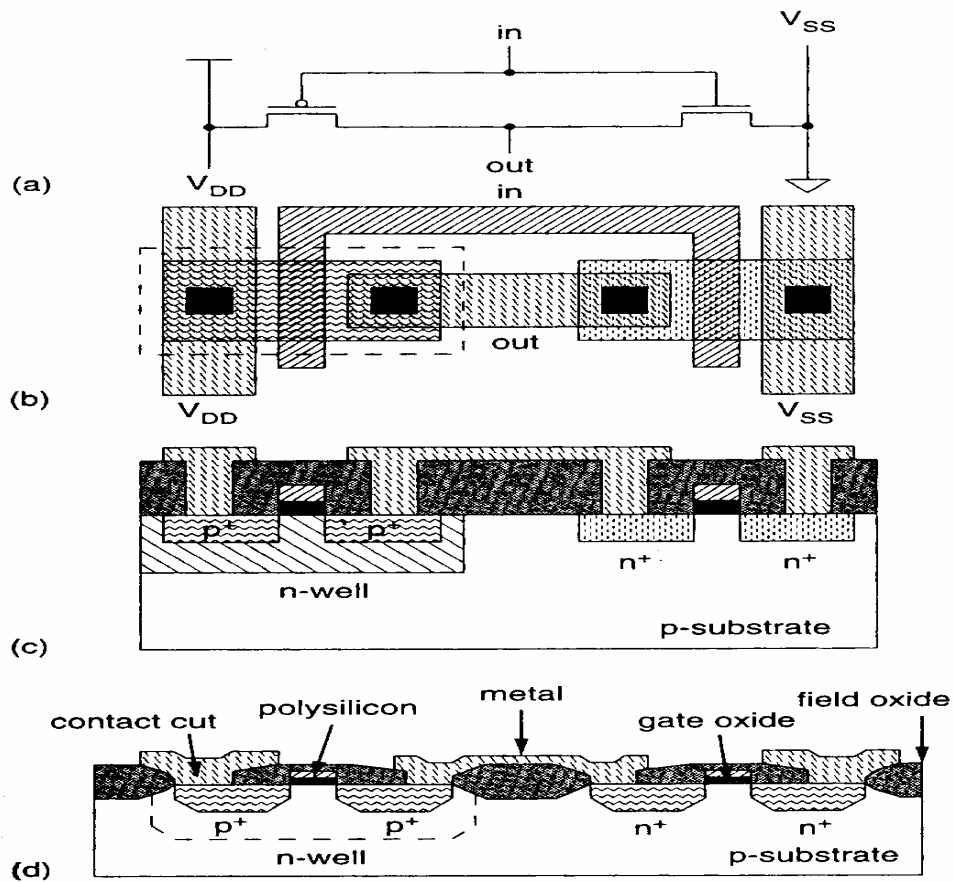

Figure 1
- ii. Different views of an inverter in n-well process is shown in Figure 1: (a) schematic; (b) layout (and top-view); (c) simplified cross-section; and (d) cross-section in actual fabrication. Observe and try to understand the layout structures of an inverter.
You are going to layout an inverter similar to that in Figure 1(b).